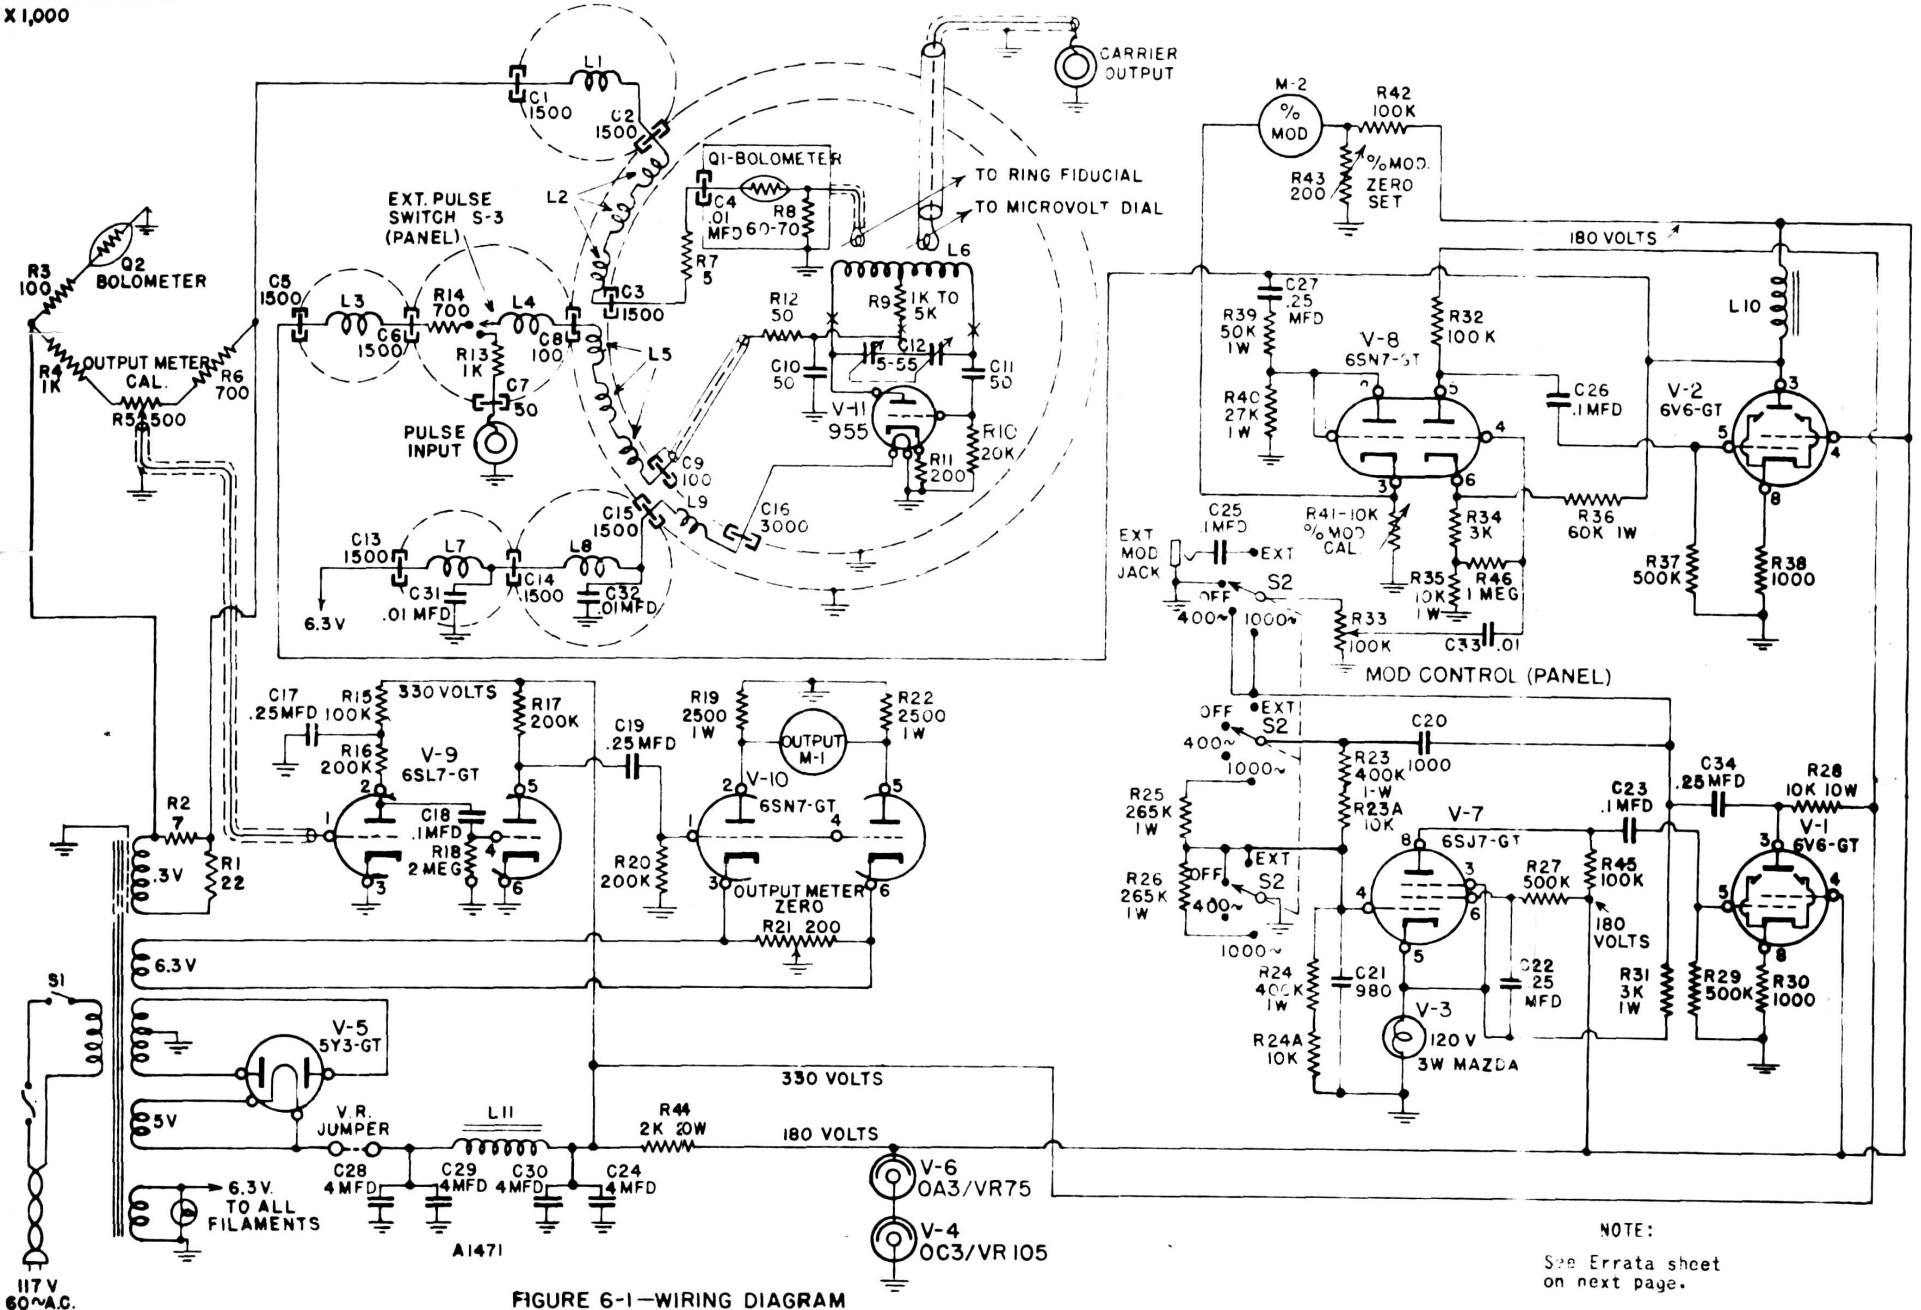

FIGURE 6-1—WIRING DIAGRAM
e. The amplitude and phase of this "unbalance" voltage will determine the degree and polarity of the Output Meter deviation from its zero center position. The Output Meter is able to respond to changes in *phase* of the "unbalance" voltage because of a unique method of operating the twin-triode, V-10, entirely from 60 cycle a.c. Since the grids of V-10 are both driven by the 60 cycle "unbalance" voltage, an aiding and bucking condition occurs in the two plate currents, depending on the phase relation between the unbalance voltage and the voltages which are supplied to the cathodes of V-10. (See Figure 6-1).